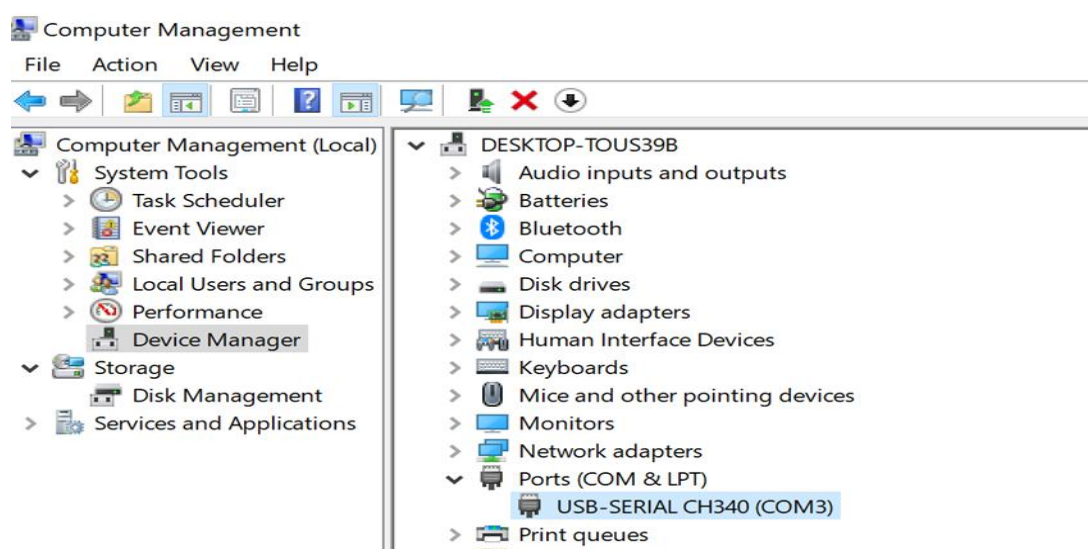

Fig. 3.2.1 Port Location
(1) Software installation: Win7 / Win8 / Win8.1 / Win10 system
(2) Connection: connect the data cables or wireless data transmission. USB cable connects to your computer.
(3) Driver Debugging: Right click “My Computer” to “Computer management” , click “Device Manager”. User can find “USB Serial Port (COM XX)” which indicates driver has been installed automatically , as shown in Fig. 3.2.1